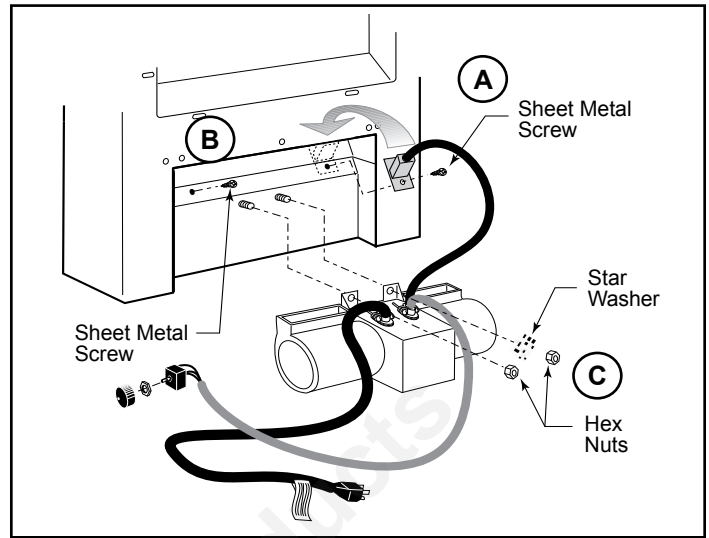

Figure 56 - Attach the snapstat and fan assembly to the rear shroud.
3. Insert one end of the snapstat into the seam at the lower shroud and secure it with one #10 x 1/2" sheet-metal screw from the parts bag. (A, Figure 56) Use another sheet metal screw to fasten the shroud at the adjacent hole. (B, Figure 56) Fasten the blower assembly to the studs with the two hex nuts previously removed and one of the star washers from the Fan Kit parts bag. (C, Figure 56)